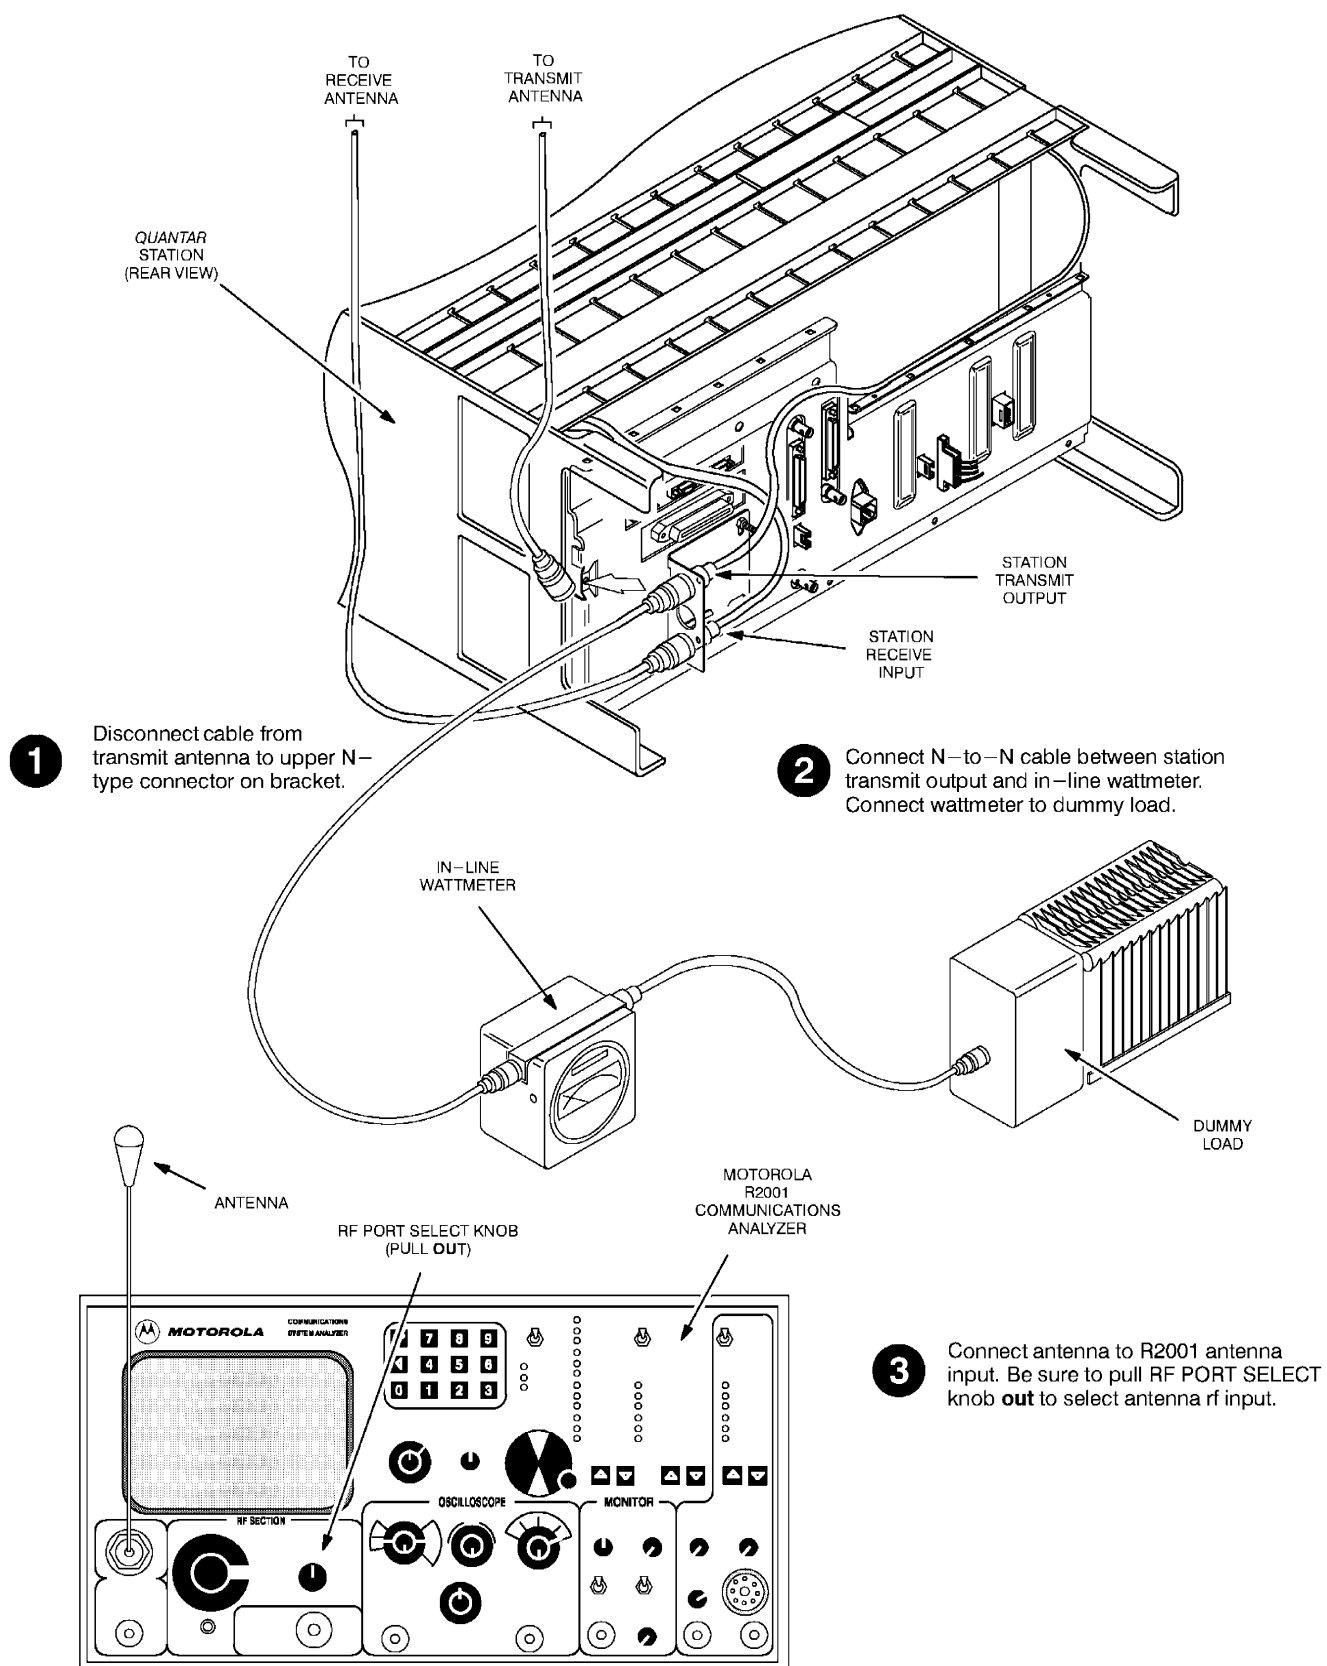

Figure 4. Test Equipment Setup for Verifying Transmitter Circuitry
- Step 1.** Connect test equipment by performing Steps 1–3 shown in Figure 4.